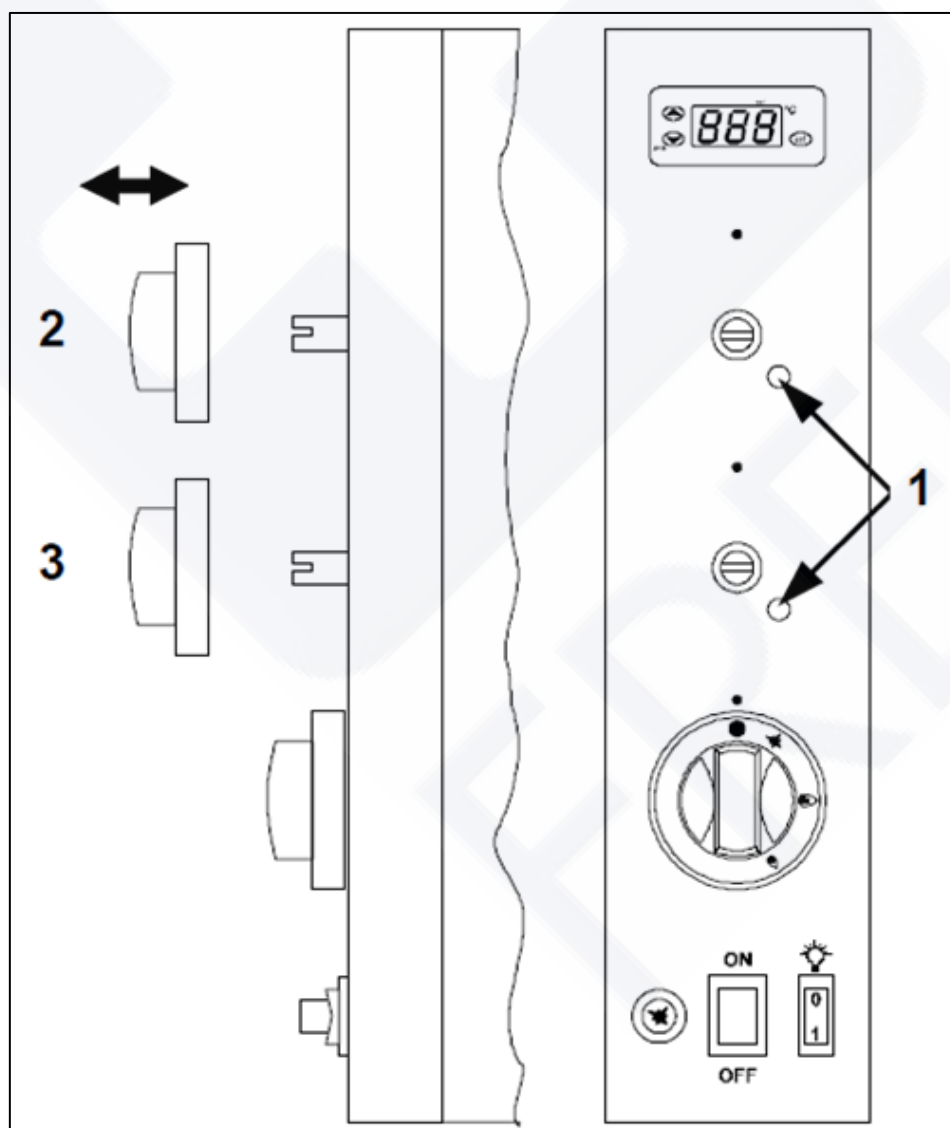

FIG. 10
For liquid gas operation (G30 - G31) the minimum is fixed and the screw (FIG.10-Ref.1) fastened, for the use of other types of gas the minimum regulation is as follows:
- Pull off manually the respective burner knob on the control panel (FIG.10-Ref.2/3);
- Turn the screw (FIG.10-Ref.1) anticlockwise 2 or 3 times and then fix the knob again;
- Pull off again the knob and fasten the screw (FIG.10-Ref.1) until the lighted flame is visibly acceptable;